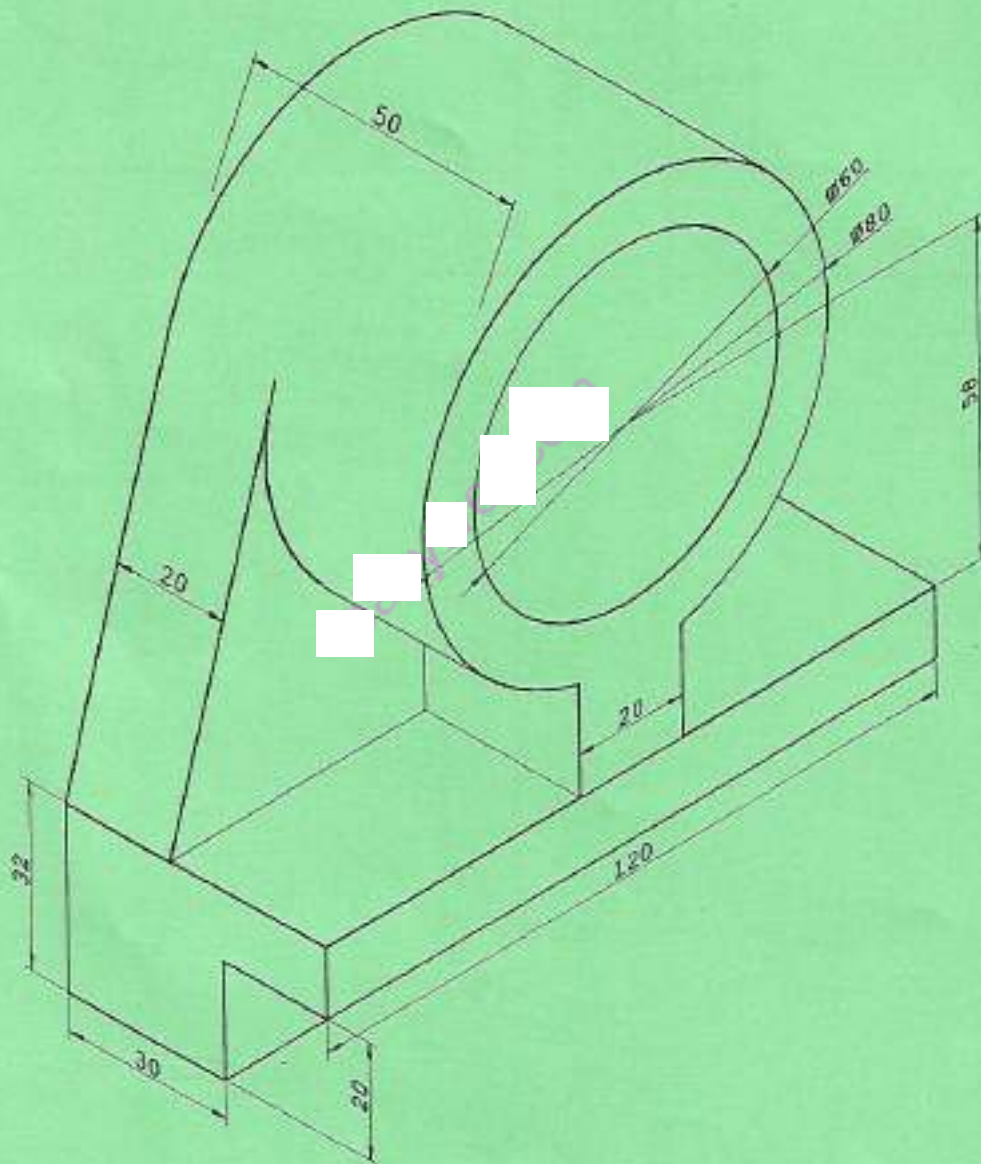

Fig. 6
7. Figure 6 shows a pictorial view of a bearing support. Draw the block in isometric projection.